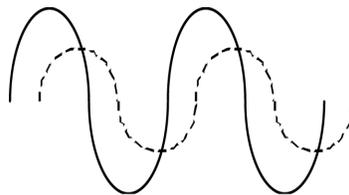

Figure 1. Voltage and current waveforms are sinusoidal but out-of-phase; PF <1.
Power Factor (PF) is technically the ratio of real power consumed to the apparent power (Volts-RMS x Amps-RMS), and is expressed as a decimal fraction between 0 and 1. PF is traditionally known as the phase difference between sinusoidal voltage and current waveforms. When the AC load is partly capacitive or inductive, the current waveform is out of phase with the voltage (Fig. 1). This requires additional AC current to be generated which isn't consumed by the load, creating I^2R losses in the power lines.
An electric motor is inductive, especially when it is starting. The current waveform lags behind the voltage waveform, dropping the PF to well below 1 (similar to Fig. 1). This is why many motors have "starting" capacitors installed to counteract the inductance, and therefore correct the PF during motor startup.